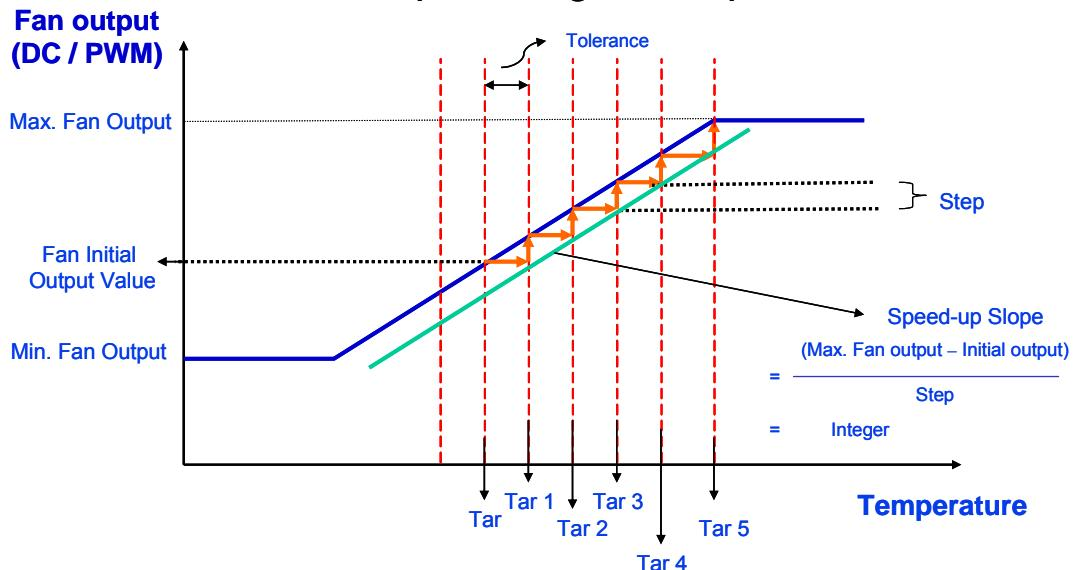

Figure 7.10
- (2) In the case that currently measured temperature goes beyond (Target Temperature + Temperature Tolerance), which is shown in Figure 7.10, fan speed jumps up to the next step. "Step" here refers to the value in the CPUFANOUT Output Value Select Register, Bank0 Index03h or Index61h.
- (3) Meanwhile, original Target Temperature dynamically shifts to (Target Temperature + Temperature Tolerance), and new Target Temperature, named Target Temperature 1, is formed. In other words, Target Temperature 1 equals original Target Temperature plus Temperature Tolerance.
- (4) If the currently measured temperature is within the (Target Temperature 1 \pm Temperature Tolerance) then, the fan speed remains constant. Otherwise, fan speed jumps up to the next step again. Target Temperature then dynamically shifts to (Target Temperature 1 + Temperature Tolerance), and new Target Temperature again, named Target Temperature 2, is formed.
- (5) The fan-speed-up and Target Temperature comparison-then-shift process continue until currently measured temperature locates within (Target Temperature X \pm Temperature Tolerance), or fan output speed reaches its maximum speed.
- (6) Please be noted that "Speed-up Slope" shown in the Figure 7.10 must be an integer. In other words, $\frac{\text{Max.FanOutput} - \text{InitialOutput}}{\text{Steps}}$ must be an integer; otherwise, it may lead to register overflow.